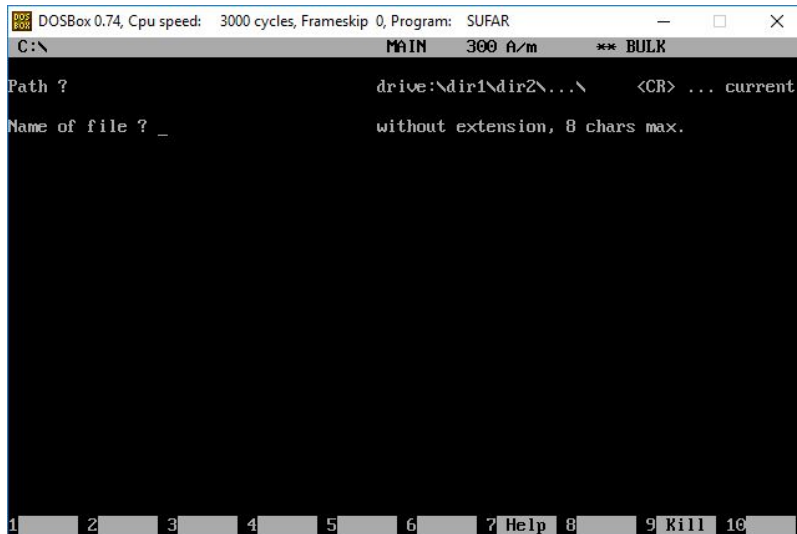

Figure 13 SuFar window prompting user to enter a file name with a maximum of eight characters
9. At the prompt **Name of file?**, enter a file name that is less than 8 characters with no extension (Figure 13).